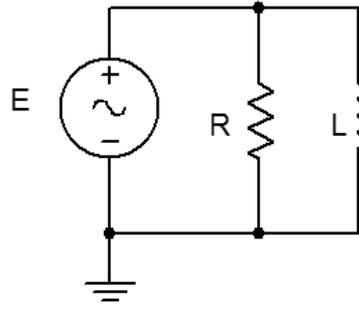

Figure 7.2
8. Replace the capacitor with the  $10\ \text{mH}$  inductor (i.e. Figure 7.2), and repeat steps 1 through 7 in like manner, using Tables 7.3 and 7.4.
4. In general, how would the phasor diagram of Figure 7.2 change if the frequency was lowered?